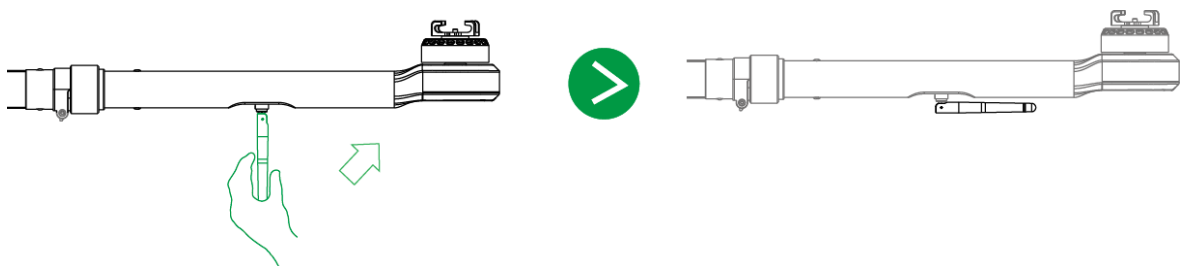

Figure 5-8
Step 2 Restore the antenna and keep it close to the arm, as shown in Figure 5-8.